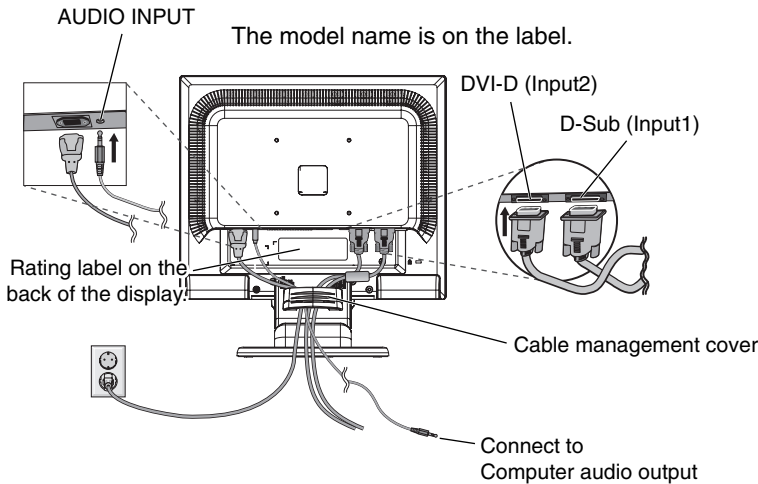
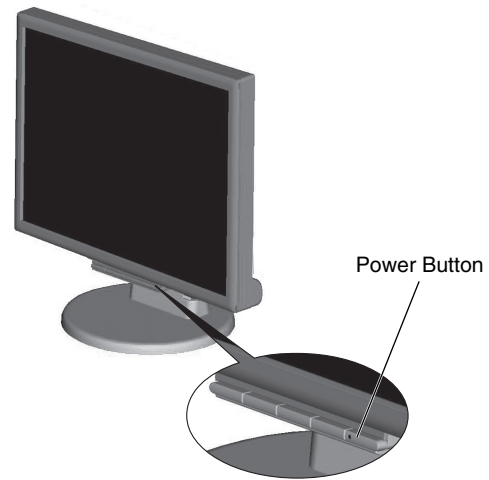

Figure B.1
Figure C.1
- Connect all cables to the appropriate connector on the back of the monitor (**Figure B.1**). Connect the Headphone to the appropriate connector at the rear side of the monitor (**Figure C.1**).
- Connect one end of the power cord to the monitor and the other end to the power outlet. Place the Video Signal Cable, Audio cable and power cord to the Cable management cover (**Figure B.1**).
- Turn on the monitor with the front power button and the computer (**Figure C.1**).